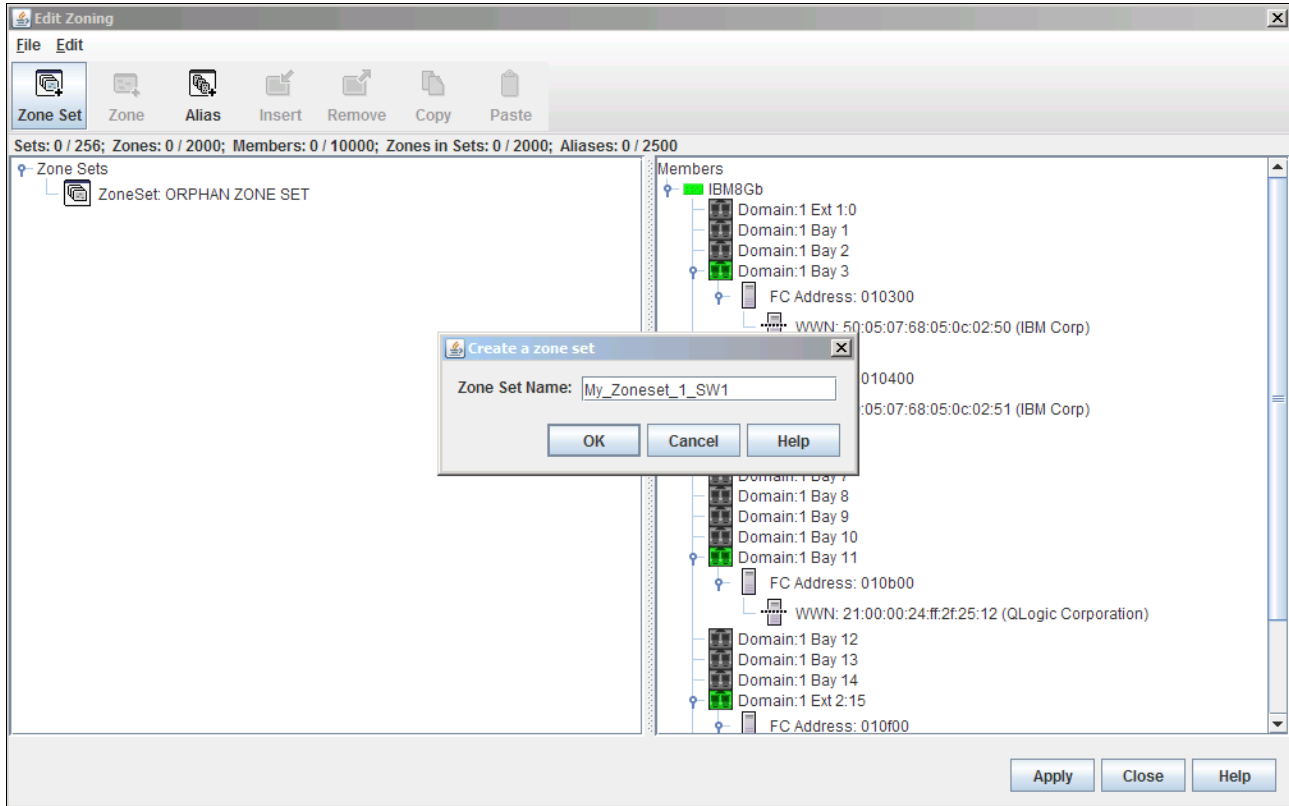
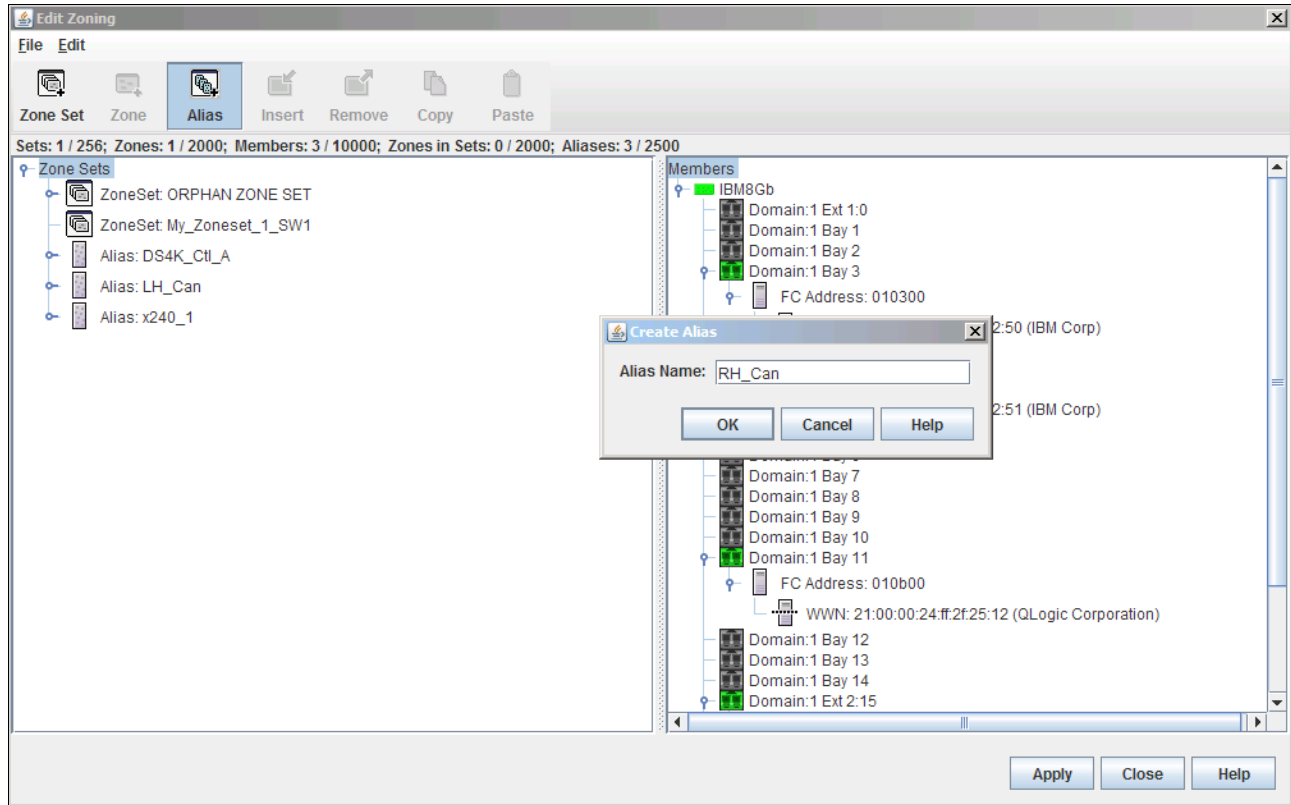

Figure 11-43 Creating a zoneset
Figure 11-44 Creating an alias name
From this option, the panel in Figure 11-43 is displayed. Proceed as follows:
The next task is to create aliases for the WWN (shown in the right side display in Figure 11-43). From the main zoning panel, click the **Alias** box and enter the alias name in the Create Alias window as shown in Figure 11-44, and click **OK** when completed.
**Tip:** When creating or changing zonesets, aliases, and zones, all changes will not be made to the switch until the **Apply** box has been clicked with the mouse at the bottom right of the zoning window, as shown in Figure 11-43.